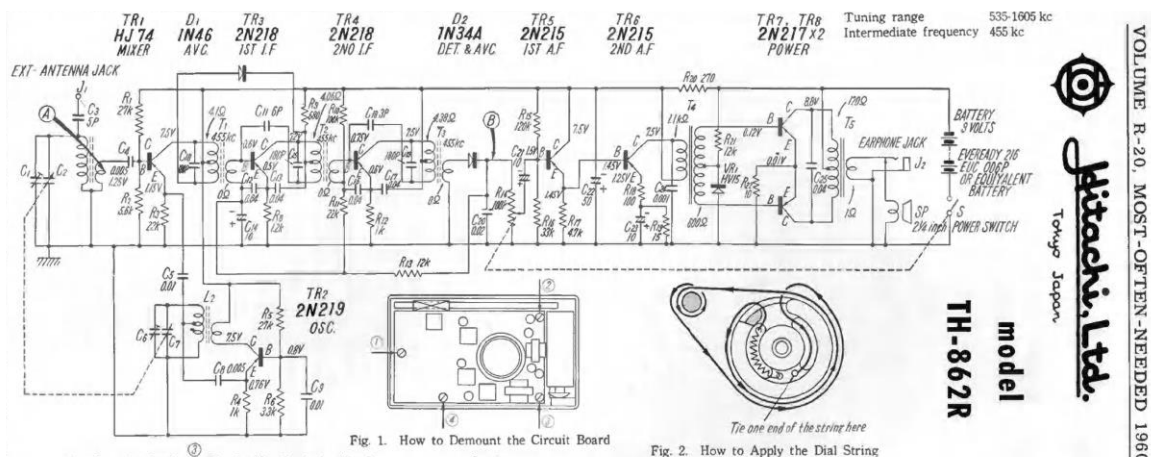
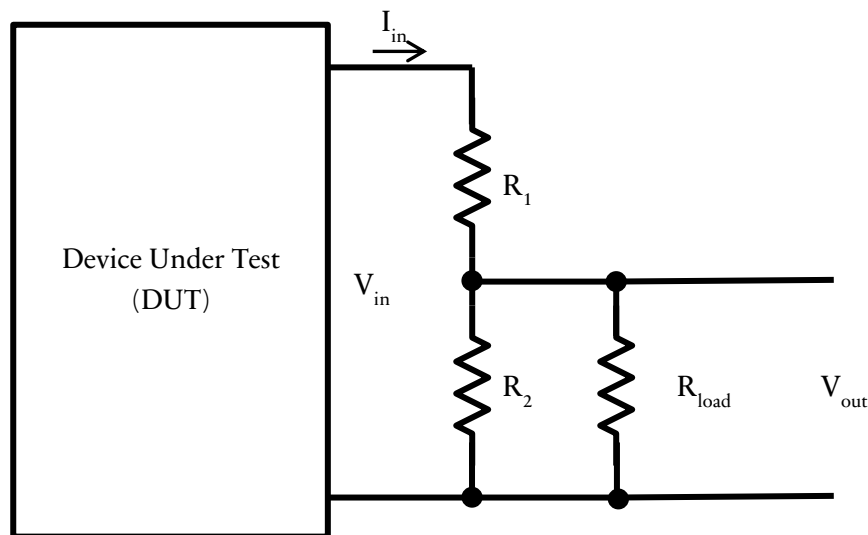

Figure 2. Schematic of a portable, 7-transistor AM radio from Hitachi (1959/1960)
Figure 3. Diagram showing connections of the voltage divider to external circuits
Despite its simplicity, the resistive voltage divider is one of the most common and identifiable sub-circuits you will find in almost any schematic. Figure 2 presents the schematic of a 7-transistor AM radio produced by Hitachi many years ago [1]. It may be too early for a first-
Let us go back now to the schematic shown in Fig. 2. It is customary to draw schematics such that signals flow from left to right (at least for somewhat simple schematics). Complex schematics will be typically broken into separate sheets, grouped by purpose or functionality. Schematics can be deceiving: this radio schematic is small enough to fit in a fraction of a page, however understanding all details of how it works will require taking several different courses. In this schematic, the radio signals are captured at the left, and they undergo several transformations until they become audible signals at the right end. This radio is built with resistors, inductors, capacitors, transistors, and diodes – all elements that you will start seeing in this class. For now, I just want you to focus your attention on resistor dividers... how many explicit resistor dividers do you see? Note that R_{14} (in the center of the schematic) is a potentiometer – a single resistor that can be manually adjusted to vary the V_{in}/V_{out} ratio. That potentiometer is attached to the volume knob of this radio. Several other resistor dividers attached to the base terminal (B) of various transistors, are used to *bias* the transistors (you will see more about this in future courses).
Same as what you observed in the many dividers found in Fig. 2, the resistor divider that you will design will be connected to both input and output networks – other parts of your overall circuit or setup with their own specific characteristics and requirements. Figure 3 is a representation of a more realistic schematic.
The schematic in Fig. 3 could represent, for example, a case where we want to measure the output voltage of a device under test (for example, this white box could represent the network of components to the left of any of the dividers in Fig. 2) using a voltmeter with a 100 V range. While ideal voltmeters are assumed to have an internal resistance infinitely high (so they would draw no current), real voltmeters have an internal resistance that is typically high, but not infinite. In this case, the current I_{in} can be written as
As you may remember, connecting a $10\text{M}\Omega$ voltmeter would result in a -9% systematic error in the attenuation of the divider. We need to correct this problem so the total of all our error contributions fits within the 10% budget specified. It is not difficult to recalculate the resistor ratios considering the parallel connection shown in Fig. 3. After some quick algebra, and always keeping in mind the specifications for these resistors, an acceptable solution could use nine $910\text{k}\Omega$ resistors for R_1 , and one $1\text{M}\Omega$ resistor for R_2 . With a total nominal resistance of $9.1\text{M}\Omega$ when connected to the voltmeter, it would draw a maximum current of $110\mu\text{A}$. For the worst case, when the total resistance of the divider is 2% below nominal, the current drawn would be $112\mu\text{A}$, still within specifications. Since the current is split between R_2 and R_{load} in a $10:1$ ratio, the dissipation at R_2 will be only about 10% lower than that of each resistor of R_1 so the difference in their temperature due to self-heating will be much less than a degree. At ambient temperature, the attenuation of the divider when the instrument is connected will be 10 ± 0.4 , well within our $\pm 10\%$ specification.